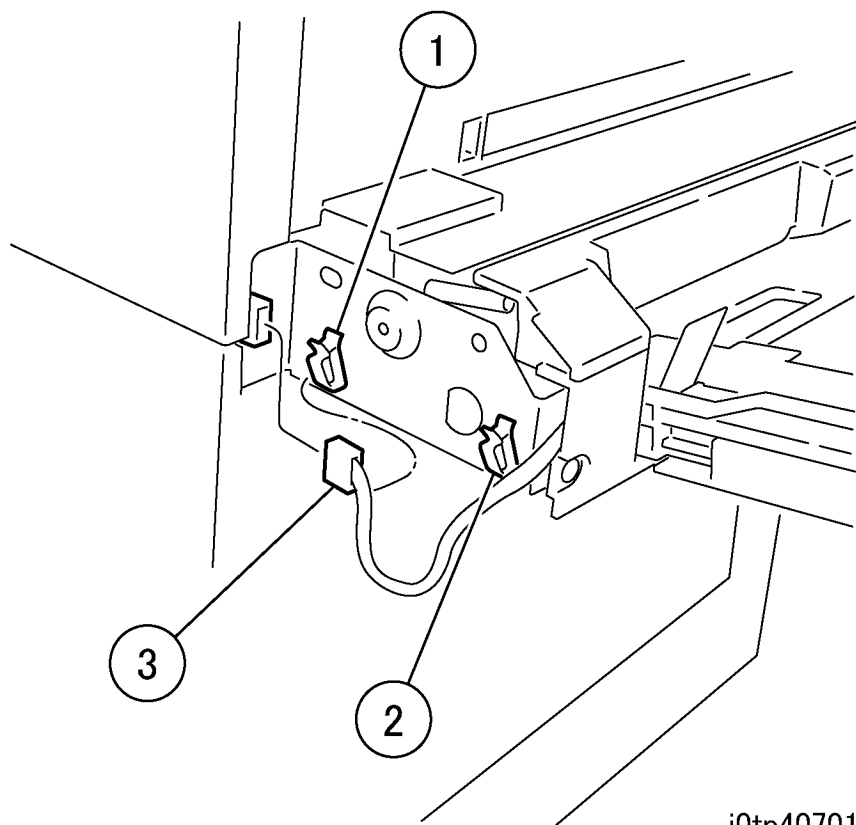

Figure 2 Disconnecting the connector
2. Disconnect the connector. (Figure 2)